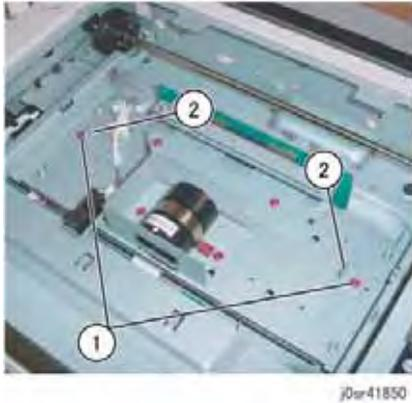

Figure 1 Remove the Alignment Pins
6. Remove the alignment pins from the Lens Assembly (Figure 1):